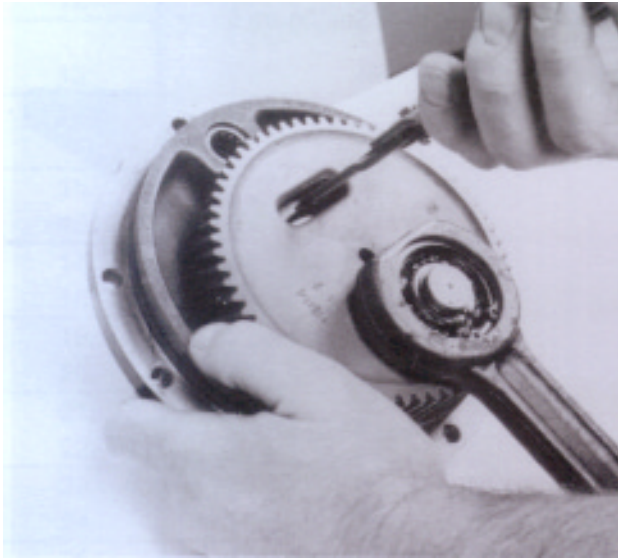

FIGURE 3
1. Remove the six (6) Flange Whiz Lock Screws (#16).
2. Install two (2) of the screws into the two threaded holes in the cover (protected by the Caplugs) and turn them in equally to back out the cover. If the cover should cock, a pry bar may be used to bring the cover off straight. See Figure 3.